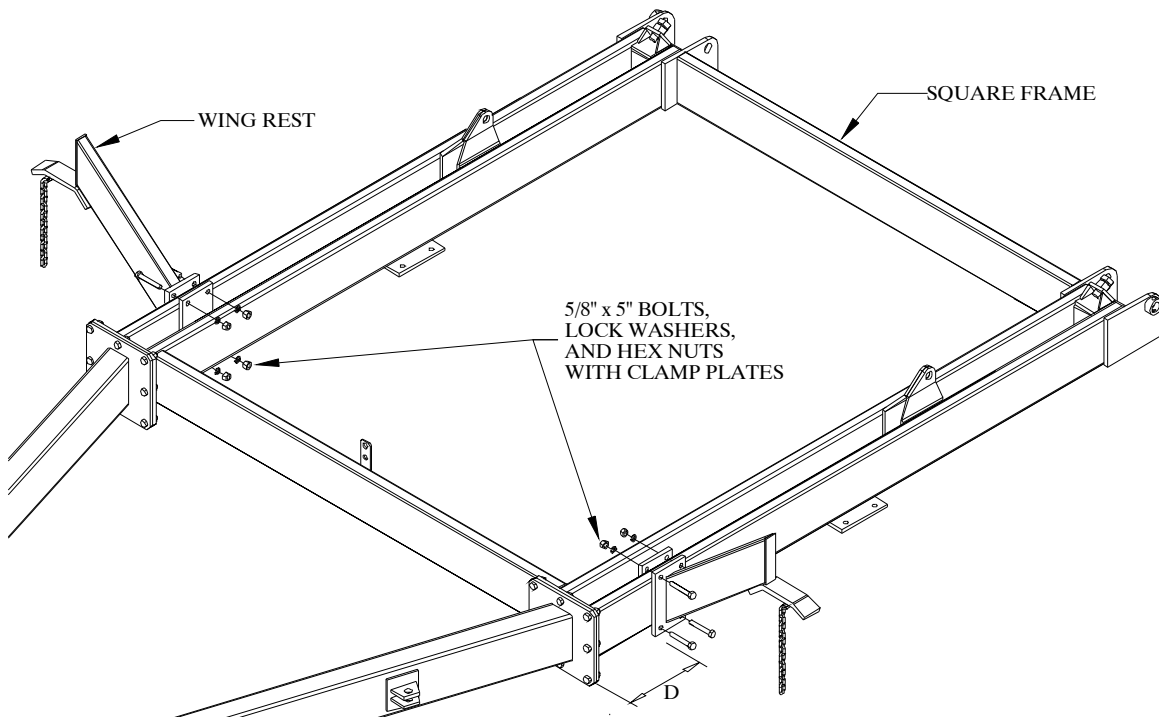

Figure 4
- Attach the wing rests to the square frame. Refer to Figure 4. Use eight 5/8" x 5" bolts, lock washers, hex nuts and a wing rest clamp plate on each side of the square frame. Do *not* tighten yet. The distance ("D" in Figure 4.) from square frame splice plate to the wing rest mounting plate varies with the model: